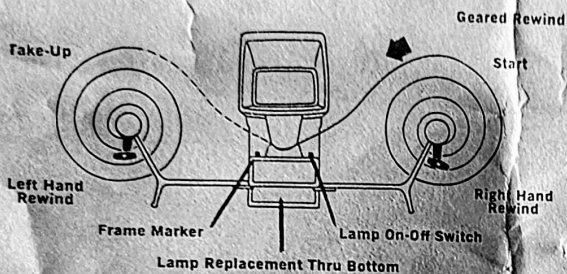

FIGURE 3
3. Turn lamp on, adjust focus and align frame for sharp, clear picture. View film by turning right hand reel counter-clockwise (fig. 3).